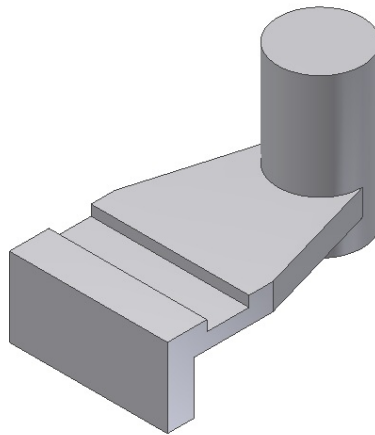

Figure 5-102 *Model after creating the cylindrical feature*
- c. Create a work plane at an offset of 10 mm from the bottom face of the join feature and then create a cylindrical join feature on it, refer to Figure 5-102.
7. Extrude the sketch to a distance of 60 mm in the upward direction and then increase the drawing display area. The extruded feature is shown in Figure 5-102.
9. Choose the **Visibility** option from the shortcut menu; the check mark is cleared making the work plane invisible. Figure 5-102 shows the model after turning off the visibility of the work plane and changing the current view to the isometric view.